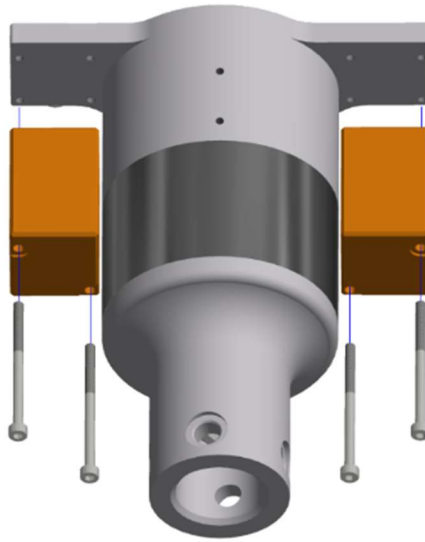

Figure 9-32. Attach the two On Board DAS Structural Replacements (474-8205)
- 9.3.2 Attach the two On Board DAS Structural Replacements (474-8205) using two M3 X 0.5 X 45 LG. SHCS SS per replacement (Figure 9-32).